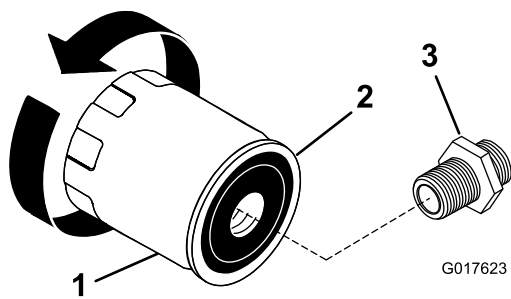

Figure 19
- Remove the old oil filter and wipe the filter adapter (Figure 19) gasket surface.
3. Apply a thin coat of new oil to the rubber gasket on the new oil filter (Figure 19).
5. Turn the oil filter clockwise until the rubber gasket contacts the filter adapter, then tighten the oil filter an additional 1/2 to 3/4 turn (Figure 19).